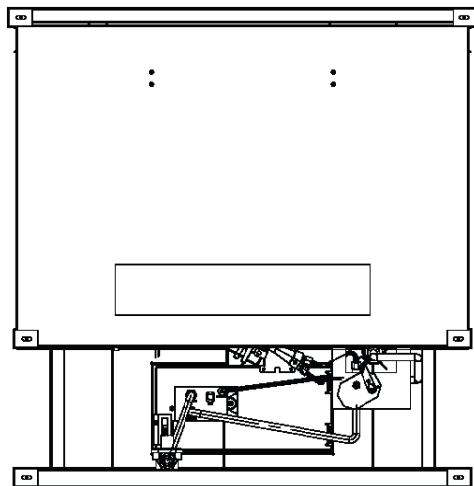

Figure 14 - Fireplaces from the Back
1. Carefully turn the fireplace to the back. (see Figure 14). Remove the cap by hand from the regulator and now the white plastic screw is in the LP position. (see Figure 15-1).
1. Carefully turn the fireplace to the back. (see Figure 14). Remove the cap by hand from the regulator and now the white plastic screw is in the NG position.(see Figure 15-5).